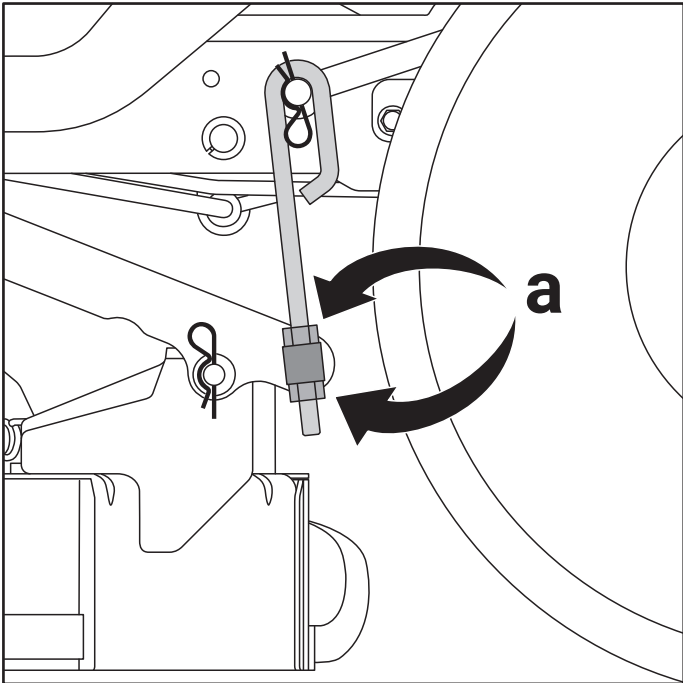

Fig. 25
3. Turn the adjustment nuts up to raise or down to lower the left side of the cutting deck.(a, Fig. 25)